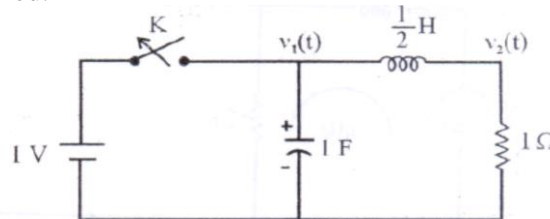

Fig.6.61
34. At $t = 0$, the switch K is opened in the network shown in Fig.6.61. Find the value of $V_1(t)$ and $V_2(t)$ for all $t > 0$, using L.T method.